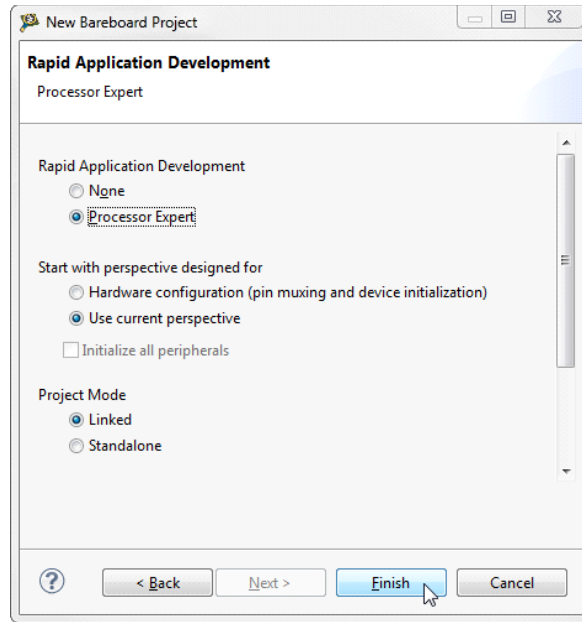

Figure 12. Select the Processor Expert Option
3. Select the **Processor Expert** option, and then click **Finish** (see Figure 12).